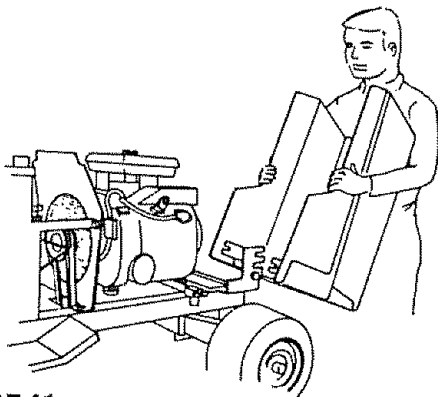

FIGURE 41
- Pivot hood and side panel forward and lift off tractor (Fig. 41).